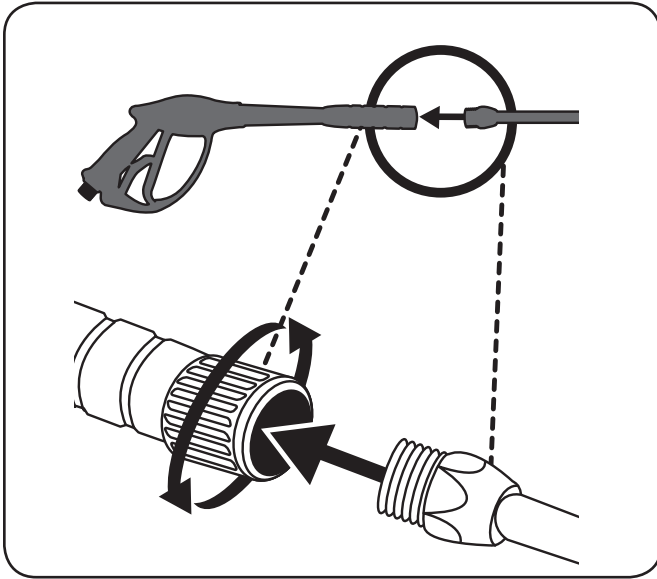

Figure 3-3
1. Connect wand to gun. Tighten securely. See Figure 3-3.